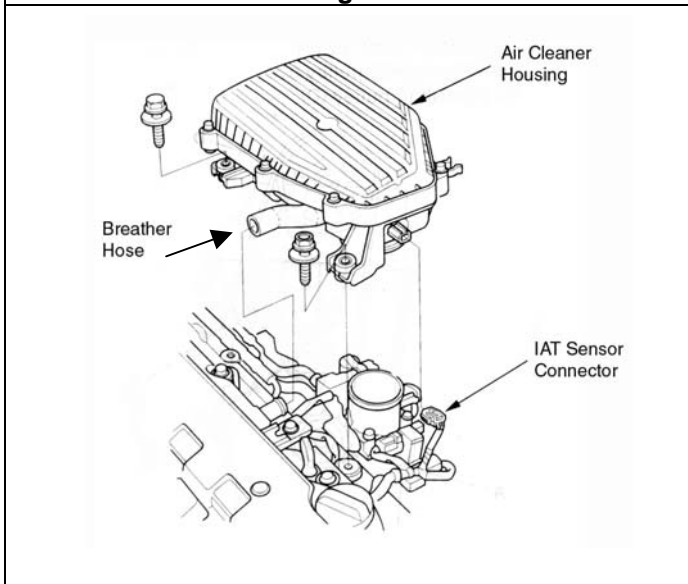

Fig. 5
- f) Remove the IAT sensor connector, then remove the breather hose. Loosen the hose clamp on the throttle body. Remove the Air Cleaner Housing by loosening the two bolts securing it. **(Fig. 5)**